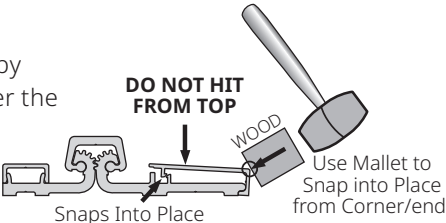

FIGURE 1
5. Install the six (6) #12-24 x 3/4" self drill/tapping screws in the six (6) 7/32" holes located in the door leaf portion of the hinge.
8. Open the door. Enlarge the 1/4" holes on the inside face of the door using a 3/8" dia. drill. Finish attaching door leaf portion of PemkoHinge® to the face of the door using the four (4) thru-bolts and shoulder bolts. Thru-bolts attach from inside face; shoulder bolts attach from the outside of face.
9. To complete the installation, secure the cover by hooking the edge away from hinge gears under the door leaf and then snap the other edge over using a rubber mallet on far side, working from top to bottom. Adjust so top of cover is flush with top of hinge (**Figure 1**).